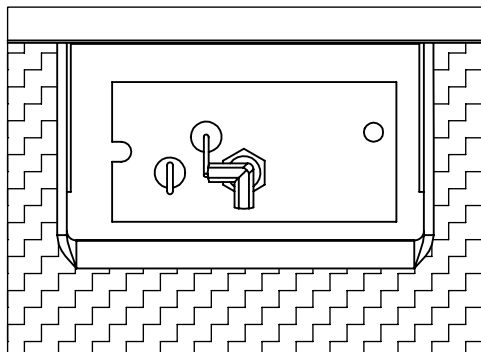

Figure 21. Ignitor assembly beside the burner (Shield Hidden).
10. Reinstall the burner, porcelain panels, glass tray, glass material, and glass door. Also refer to **SECONDARY INSTALLATION - FIREBOX LINER & BURNER TRAY REMOVAL/INSTALLATION** in your Owner's Manual. When reinstalling the burner, ensure that the burner to pilot hood relationship is similar to what is shown in Figure 21.